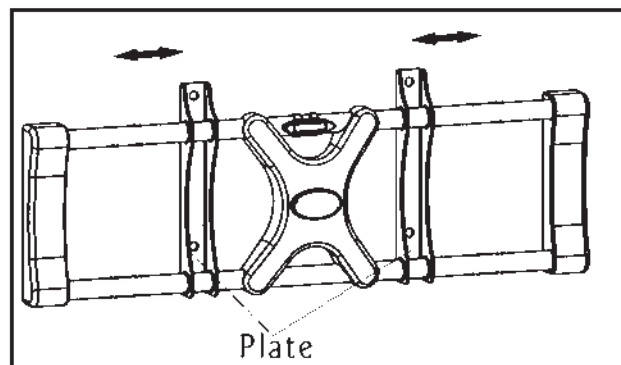
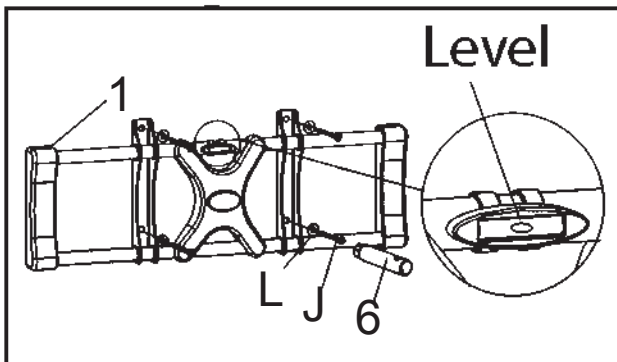

Fig. 3c
Fig. 3d
2. Place the wall mount flat against the wall with the center of the mount in the desired location, aligning the holes in the mount with the studs (Fig 3c). Use the wall plate as a template to mark the location of all four mounting holes on the wall. Make sure that the mounting holes are level and are parallel.
4. Use the supplied box-end wrench (6), the four long bolts (J), and washers (L) to attach the wall mount to the wall. Do not use wall anchors in wood stud walls.
5. Use the built-in level to level the wall mount (Fig 3d), repositioning as necessary, then securely tighten the bolts.
3. Insert a wall anchor (K) into each pre-drilled hole and lightly tap it with a hammer until the wall anchor is flush with the wall.
4. Use the supplied box-end wrench (6), the four long bolts (J), and washers (L) to attach the wall mount to the wall with the wall anchors.